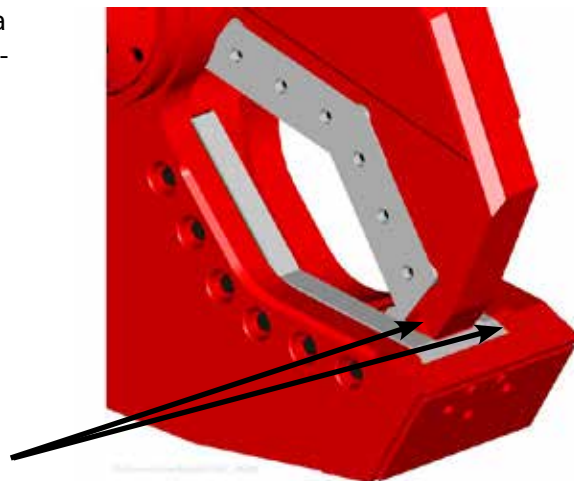

FIGURE 5-29
9. To check the fit of the tip, close the shear until the piercing tip begins to enter the lower shear (see Figure 5-29). The piercing tip should fit squarely into the lower jaw.